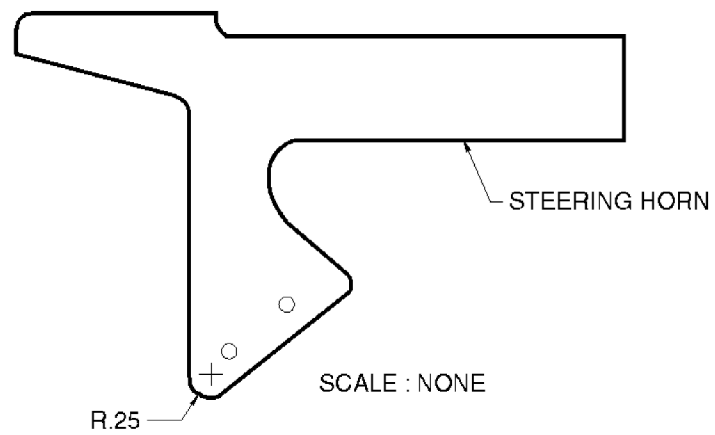

Figure 1
4. Trim the steering horn (P/N 85154-002) to incorporate the 0.25 radius as illustrated in Figure 1, (re-identify to P/N 85154-012) or replace the steering horn with a new steering horn, P/N 85154-012.